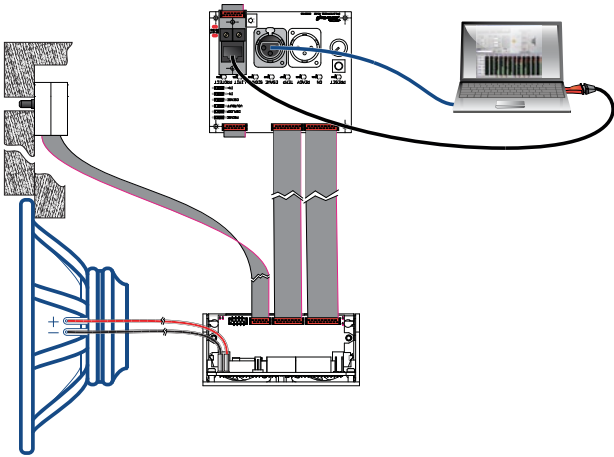

FIGURE 18: Wiring diagram.
4. Properly plug the system as shown in FIGURE 18.